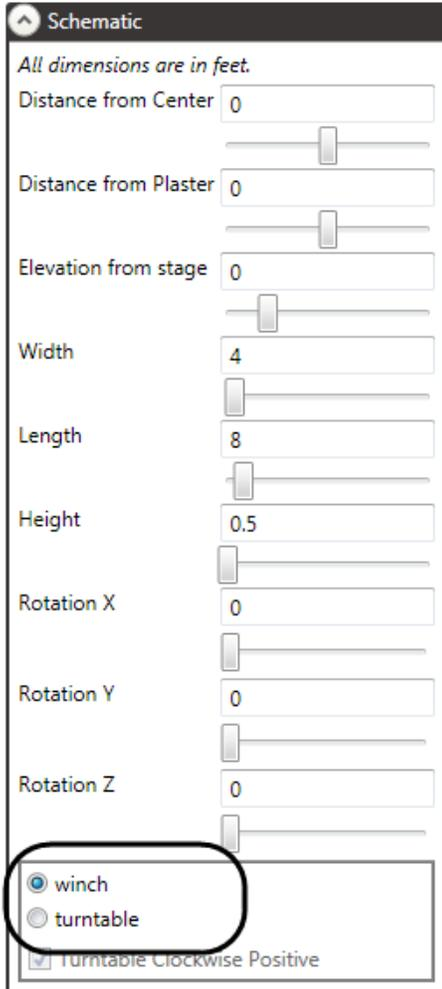

Figure 268
2. In the **Stagehand Editing Pane**, scroll to the **Schematic** section and make sure that **Winch** is selected at the bottom (Figure 268).